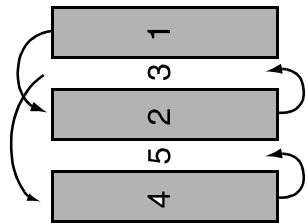

Figure 3
- When tilling, leave approximately 8 inches of untilled soil between the first and second tilling paths, then make the third path between the first and second. See Figure 3.
- Passes should be made across the length and width of the garden alternately. See Figure 3. Rocks, which are turned up, should be removed from the garden area before proceeding with tilling.